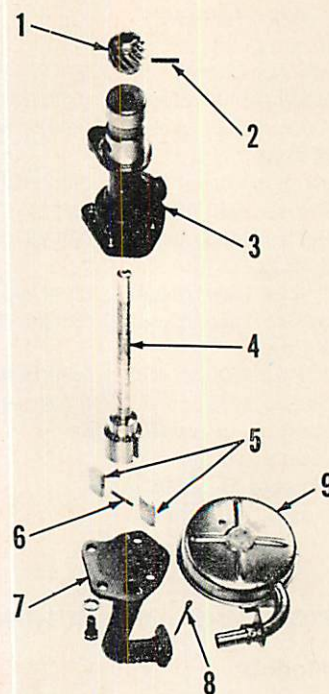

Fig. O62 — Exploded view of vane type oil pump used in all models except Series 1650 diesel.
84. All models except the Series 1650 diesel are fitted with a vane type oil pump as shown in the exploded view in Fig. O62. To remove the pump, drain and remove oil pan. After removing the one retaining cap screw, pump can be withdrawn from bottom of engine crankcase.